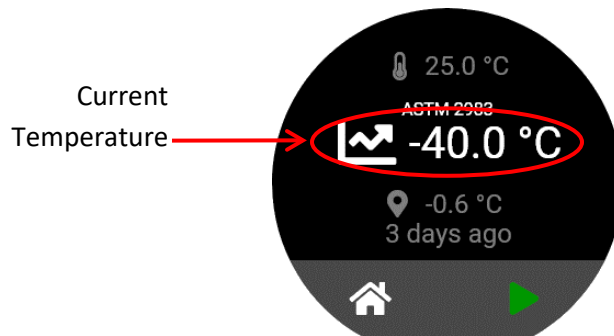

Figure 18: Home Screen of the Base Unit
12. On the home screen, the current temperature is displayed. See Figure 18.